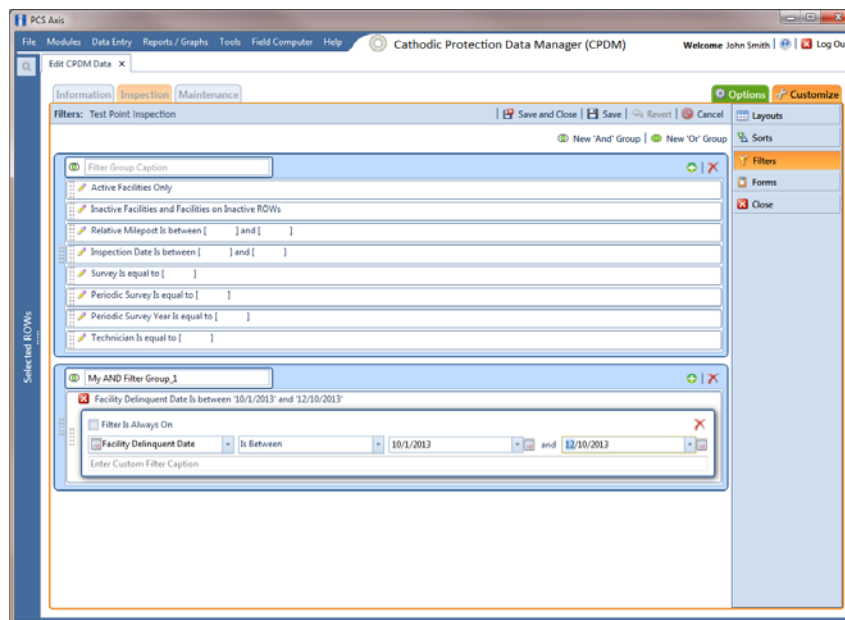

Figure 7-89. Filters
- 5 Click  **New 'And' Group** to open a filter properties group box (Figure 7-89, page 305).
- 8 If the AND filter group includes a date filter, such as *Facility Delinquent Date Is Between* shown in Figure 7-89, set a date range using a calendar or dynamic dates in the following manner: